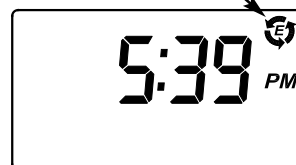

FIG. 22
3. Press the SELECT/MENU button three times, to return to the normal run display (See Figure 22).